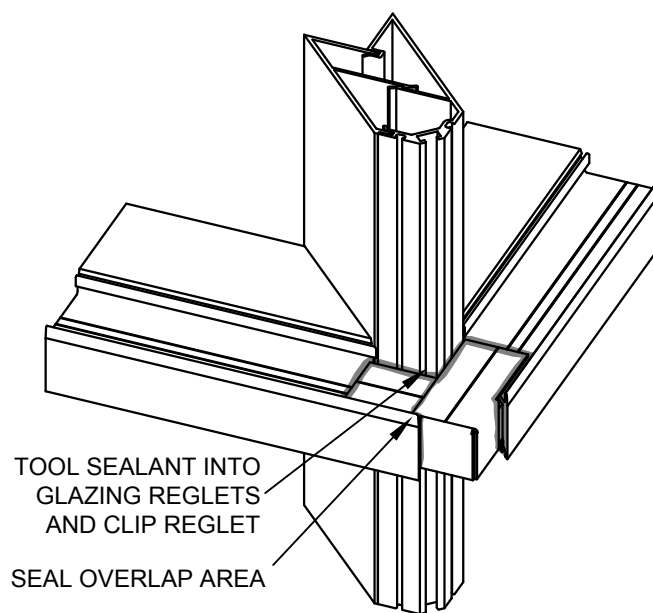

FIGURE 4
STEP C: Apply sealant around the top and down the sides of the water deflector and overlap area. Also apply sealant in the glazing reglets and clip reglets. Tool sealant. (Figure 4)
*When using pre-installed vertical glazing adaptors, care should be taken at the time of the frame assembly, to seal the vertical glazing reglets where they meet the intermediate horizontals. The 1/4" water deflector should also be used on all full-length applications (**Figure 4**), and installed as shown on page 45. 1" water deflectors are used for partial adaptor applications as long as the adaptor does not impede water evacuation of the intermediate horizontal. The water deflector must allow water to drain into the vertical pocket beyond the edge of the glass below.*